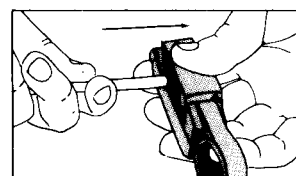

FIGURE 8
G. MOVE SLIDE BACK ONE POSITION. Then pull cable out carefully while squeezing tool (Fig. 8). If there is too much resistance or strip is imperfect, go to step "H".